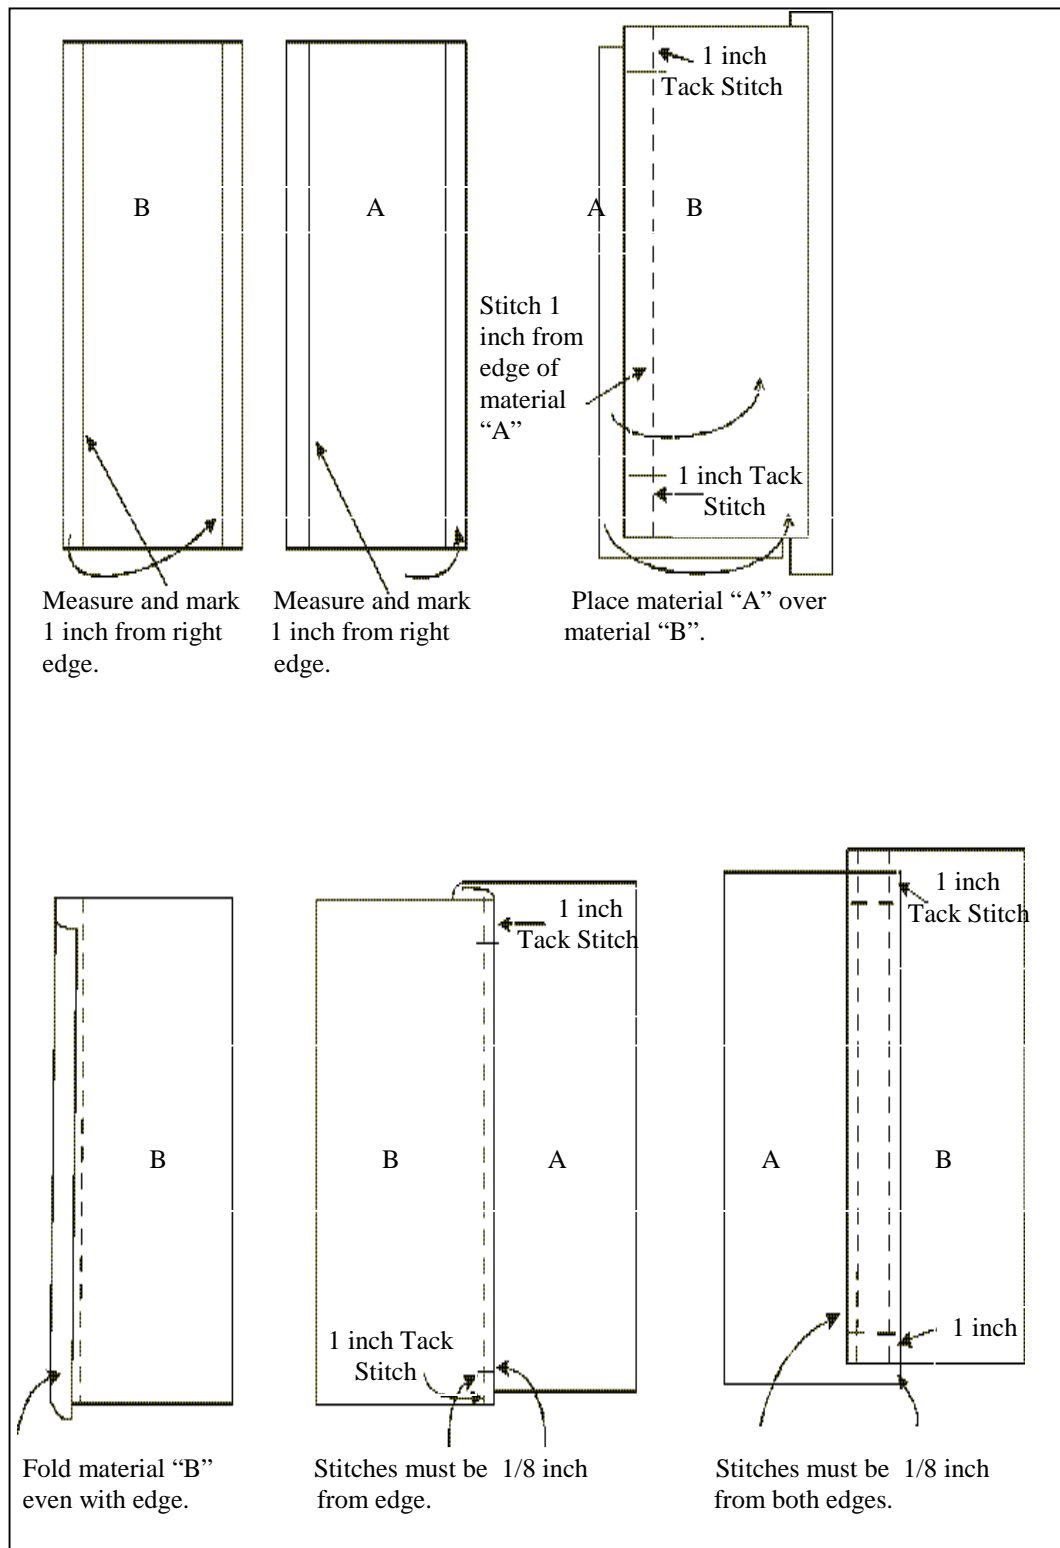

Figure 8-8. Double-felled seam
e. Double-Felled Seam. The double-felled seam (Figure 8-8) is similar in appearance to the double-lapped seam used on clothing. This seam is used to join two pieces of canvas when the outside and the inside of the seam have to be finished with no exposed raw edges. To make a double-felled seam--
- (1) Place piece A faceup on a worktable.
- (2) With a ruler and chalk, mark a chalk line 1 inch from and parallel to the left edge.
- (3) Place piece B facedown on a worktable.
- (4) With a ruler and chalk, mark a chalk line 1 inch from and parallel to the left edge.
- (5) Place piece B facedown on piece A. Align the left edge of piece B with the chalk line of piece A.
- (6) Tack the beginning of the seam, and sew the two pieces of canvas together by stitching a seam on the chalk line of piece B. Tack the end of the seam.
- (7) Fold the left edge of piece A up and over to the left on the stitch row of B.
- (8) Fold the right side of piece B up and over to the left on the seam line so that both pieces are faceup.
- (9) Tack the beginning of the seam, and sew a row of stitches 1/8 inch to the left of the folded edge. Tack the end of the seam.
- (10) Turn both pieces of canvas over so that they are facedown.